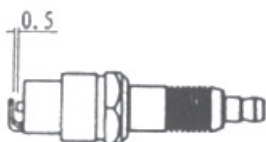

Fig 5
- Clean the accumulated carbon in the ignition plug, adjust the clearance to 0.6mm (Fig 5)